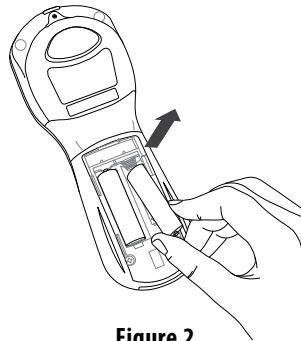

Figure 2
4. Remove the batteries by lifting them out from the positive (+) side of the battery compartment. (Fig. 2)